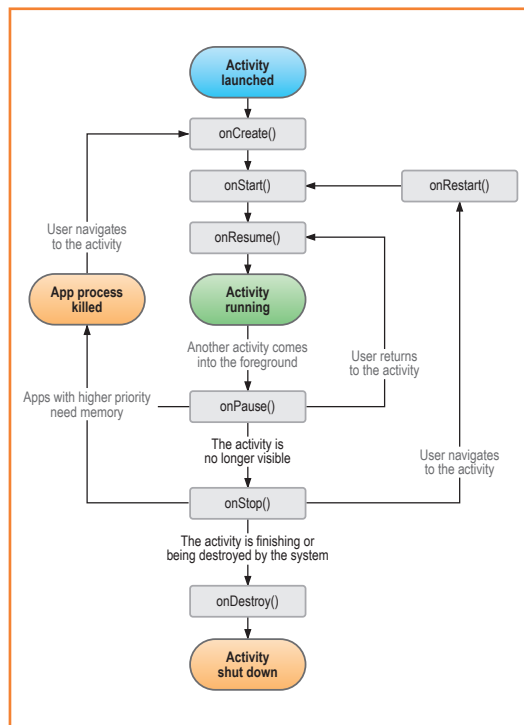

Figure 13. Life-cycle of an activity.
**Figure 13** illustrates the life cycle of an activity, typical in a multitasking system. Our ANDROECG application comprises three activities:
**MainActivity:** Android creates this activity when the application is runs and executes the **onCreate()** method (Figure 13). This performs all the necessary initializations and creates, among others, the *BluetoothService* and *Timer1Service* services. The other methods (or functions) of the activity take care of the actions on the touch buttons and the menu functions. The last two methods take care of the messages sent when the other activities close and by the services in order to react accordingly and/or inform the user (e.g. loss of BT connection).